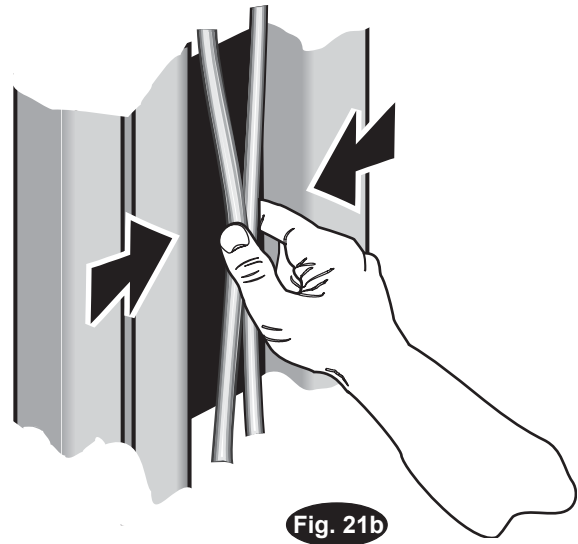

Fig. 21b
22. Equalizer Cable Adjustments: Raise lift to check equalizer cable tension. Below carriage, grasp adjacent cables between thumb and forefinger, with about 15 lbs. effort you should just pull the cables together. Adjust at upper tie-offs Fig. 21b.